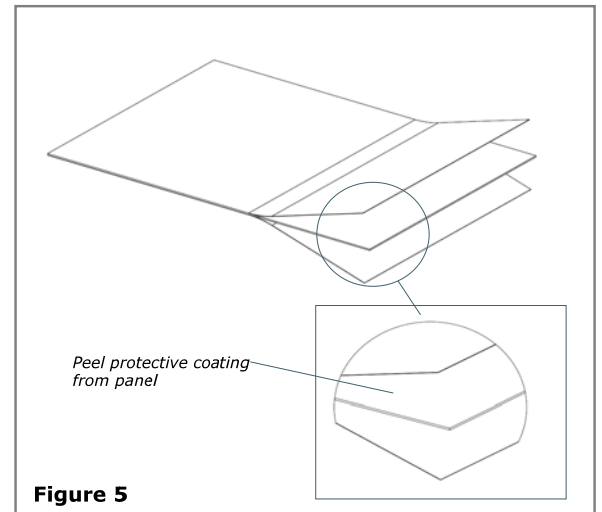

Figure 5
5. Peel the protective coating from both sides of the white diffusion panel. **See Figure 5.**
1. Peel the protective coating from both sides of the white diffusion panel. **See Figure 5.**